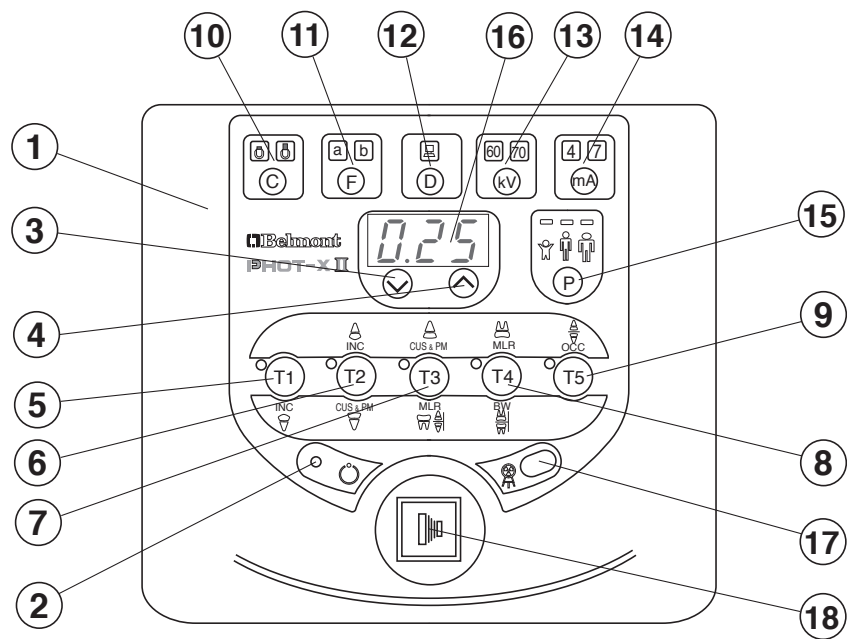

Fig.2-6 Sub Controller Switches
② Ready Light (Fig.2-6)
③ ④ Exposure Time Adjusting Switches (Fig.2-6)
⑤ ~ ⑨ Tooth Selection Switches (T1 ~ T5) (Fig.2-6)
⑩ Cone Type Selection Switch (Fig.2-6)
⑪ Film Speed Selection Switch (Fig.2-6)
- c. If the **Digital Imaging Switch** ⑫ is depressed, both of the film speed indicating lights (a & b) are turned off.
⑫ Digital Imaging Switch (Fig.2-6)
⑬ kV Selection Switch (Fig.2-6)
⑭ mA Selection Switch (Fig.2-6)
⑮ Patient Size Selection Switch (Fig.2-6)
⑩ Exposure Time Display Window (Fig.2-6)
⑪ Exposure Warning Light (Fig.2-6)
⑫ Exposure Switch (Fig.2-6)